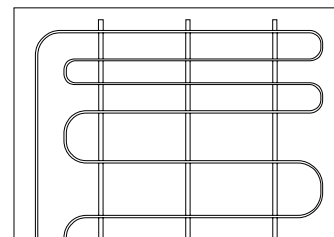

Figure 6
1. Lay out Wirsbo rails parallel with floor joists (perpendicular to tubing layout direction). Space the rails 12" from the edge of each wall, and 3' on center thereafter. (See figure 6).
4. Snap the tubing into each rail at the recommended spacing. The tubing will be installed in a single wall serpentine layout pattern (see Figure 6).